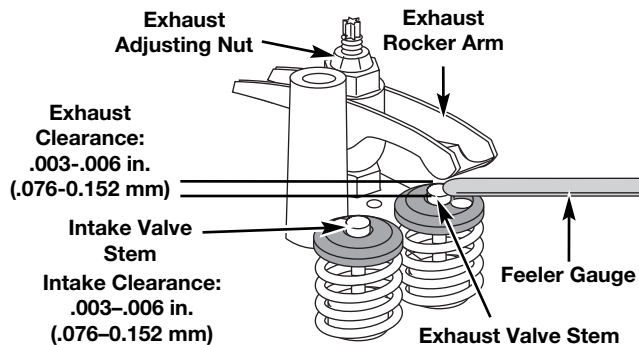

Fig. 40
The recommended clearance for the intake and exhaust is .003 – .006 in. (.076 – 0.152 mm). Use a standard automotive feeler gauge at .005 (0.127mm). The feeler gauge should slide between the rocker arm and valve stem with a slight amount of resistance, without binding. Figure 40 shows how to measure the clearance.
- a. Turn the adjusting nut using a 5/16 inch (8 mm) wrench or nut driver (Fig. 40).